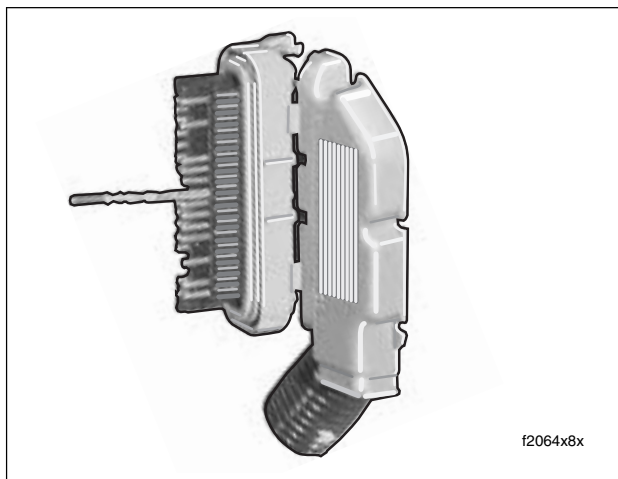

Figure B-36. Push Wire to Extract Terminal
4. Push on selected wire to free terminal from chamber. See Figure B-36.
1. From inside socket housing, gently pull on wire to draw terminal into chamber. See Figure B-36.